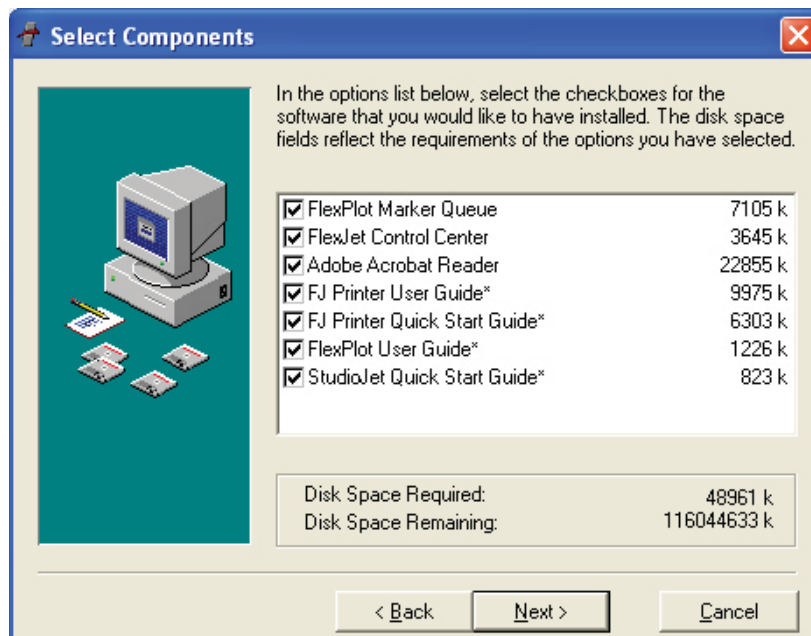

Figure 1. Insert the Installation Disk in your CD-ROM drive to install **FlexPlot**.
- Follow the self-guided installation procedure. The default settings are acceptable for most users. Ioline recommends that you install the manuals and the Adobe® Acrobat® viewer along with the **FlexPlot** software. (See *Figure 1*.)